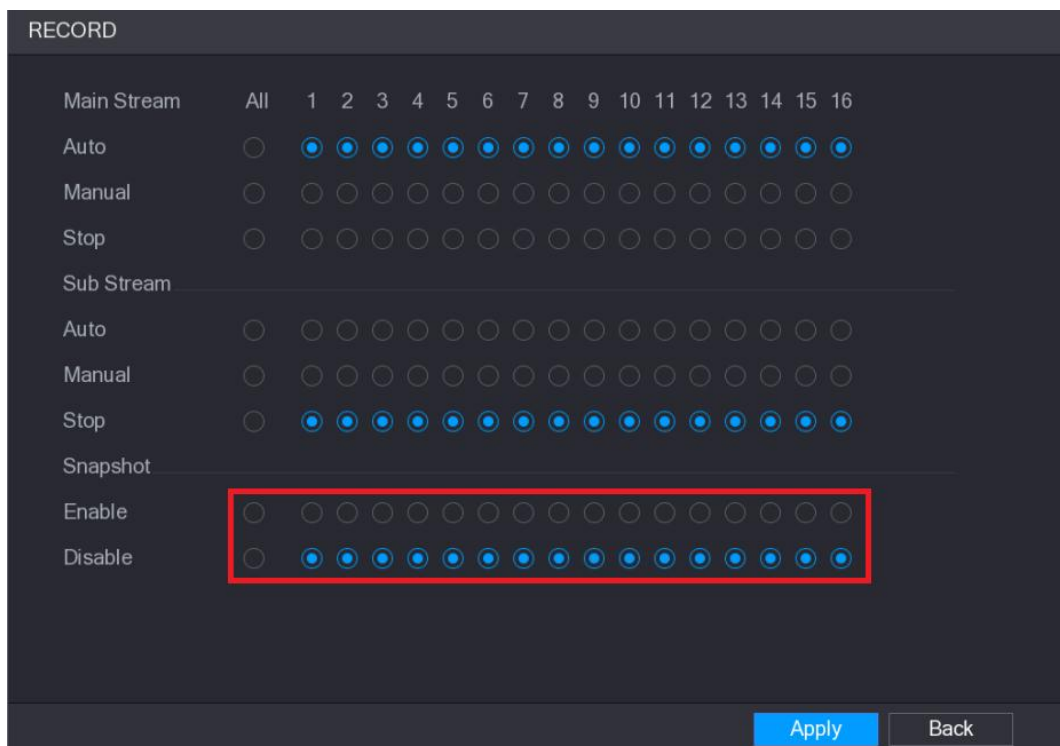

Figure 5-96
**Step 3** In the **Snapshot** area, enable the snapshot for the channels if needed. See Figure 5-96.